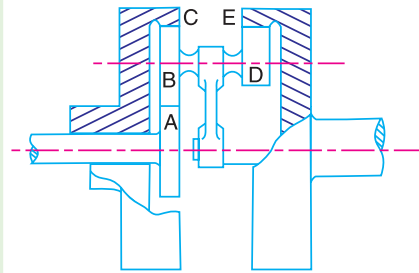

Fig. 13.28
**Example 13.21.** In the epicyclic gear train, as shown in Fig. 13.28, the driving gear A rotating in clockwise direction has 14 teeth and the fixed annular gear C has 100 teeth. The ratio of teeth in gears E and D is 98 : 41. If 1.85 kW is supplied to the gear A rotating at 1200 r.p.m., find : 1. the speed and direction of rotation of gear E, and 2. the fixing torque required at C, assuming 100 per cent efficiency throughout and that all teeth have the same pitch.
Let  $d_A$ ,  $d_B$  and  $d_C$  be the pitch circle diameters of gears A, B and C respectively. From Fig. 13.28,